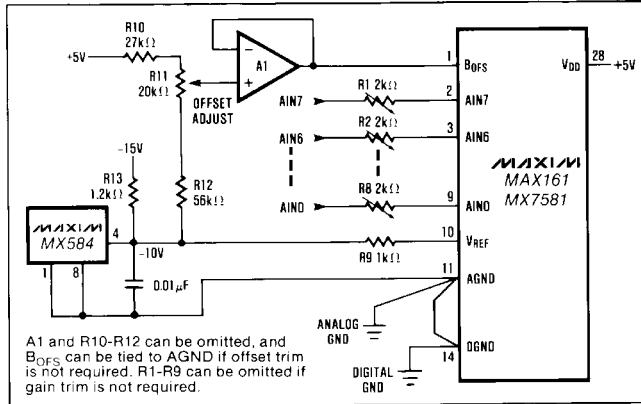
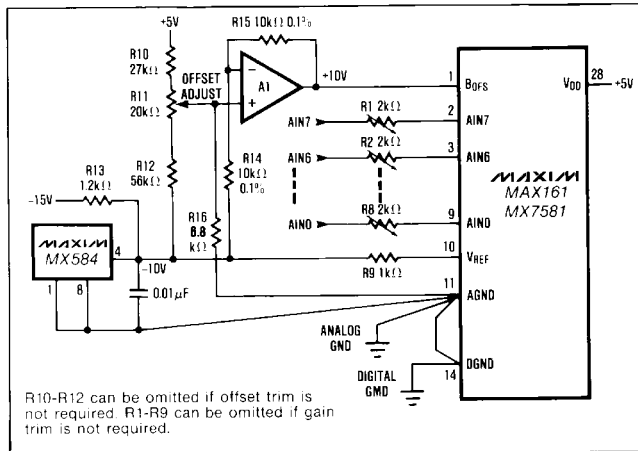
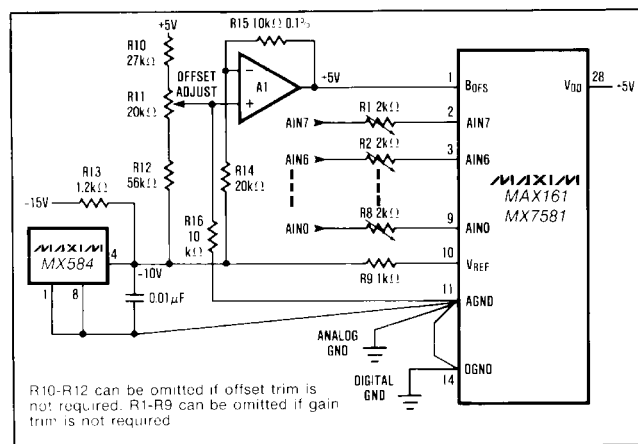

Figure 5. Unipolar (0 to +10V) Operation
Figure 7. Unipolar (0 to -10V) Operation
Figure 9. Bipolar (-5V to +5V) Operation
| Output Code                            |           | See Figure 5See Figure 7See Figure 9  |      |             |             | Unipolar BinaryComplementary BinaryOffset Binary |
**Note 4.**  $R_{BOFS}/R_{AIN}$  mismatch causes transfer function rotation about positive full scale. The effect is an offset and a gain term when using the circuits of Figure 7 and 9.
For the following circuits, the offset and gain adjustments shown in Figures 5, 7 and 9 are often not needed (The offset and gain error of the MAX161C are 1LSB and 2LSB respectively). In those cases, A1 and R1-R12 can be omitted. Note that in all cases where full scale is adjusted, offset must be trimmed first.
Figures 5 and 6 show the analog circuit connections and the resulting transfer characteristic for basic unipolar operation (0 to +10V input). A -10V reference is connected to pin 10 through resistor R9 and a clock is connected to pin 15. Calibration is as follows:
Figures 7 and 8 show the analog circuit connections and typical transfer characteristic for unipolar (0 to -10V input) complementary binary operation. Calibration is as follows:
Figures 9 and 10 show the analog circuit connections and typical transfer characteristic for  $\pm 5V$  bipolar operation. Calibration is as follows: